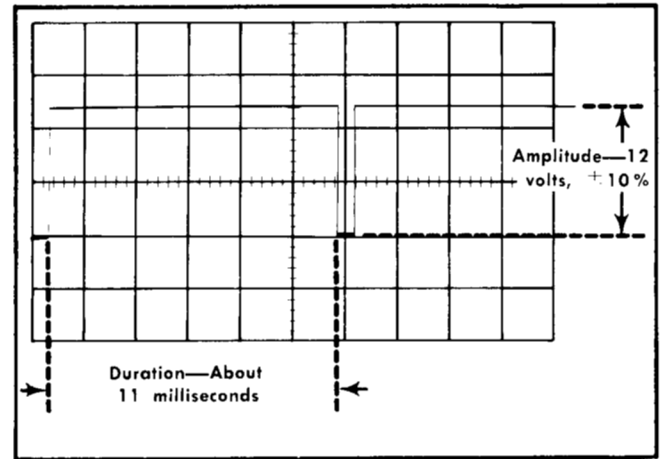

Fig. 6-63. Typical crt display when checking gate amplitude and duration (vertical deflection, 5 volts/division; sweep rate, 2 milliseconds/division).
- Check—A GATE output signal +12 volts in amplitude, $\pm 10\%$ (see Fig. 6-63). Gate duration same as A Sweep.
- Set the HORIZ DISPLAY switch to DELAYED SWEEP (B).
- Check—B GATE output signal +12 volts in amplitude, $\pm 10\%$ (see Fig. 6-63). Gate duration same as B Sweep.